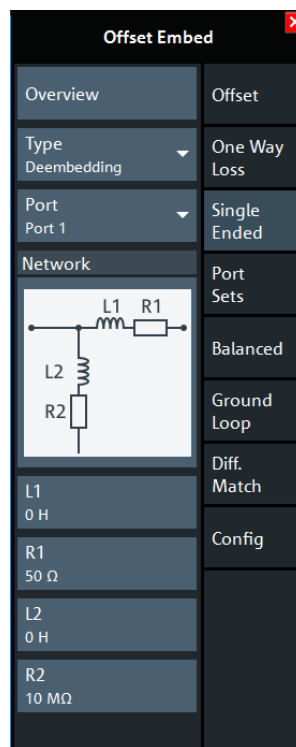

Fig. 11 - Offset Embed Menu - Shunt L, Serial L selection.
Step 3: Under Port 1 Select > **Shunt L, Serial L** network as shown by Figure 11